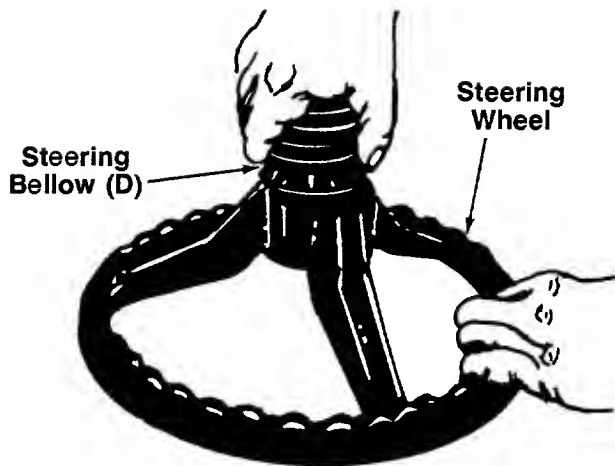

FIGURE 3.
2. Attach steering bellow (D) to the steering wheel as shown in figure 3.